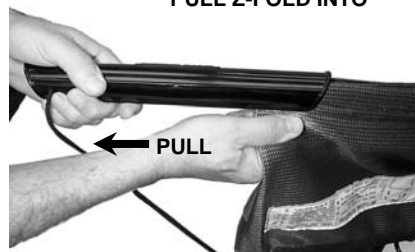

FIGURE 2.10
5. Grasp the edge of the Z-fold, and while holding the slider, pull the Z-fold fully into the slider. See Figure 2.10.